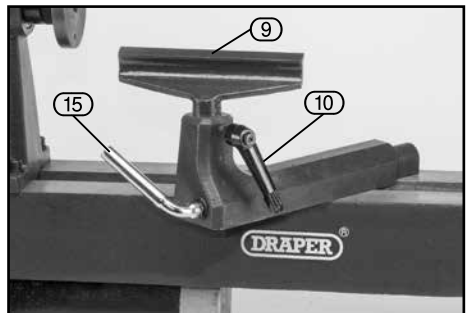

FIG. 6
9.3 ADJUSTING THE TOOL REST – FIG. 6